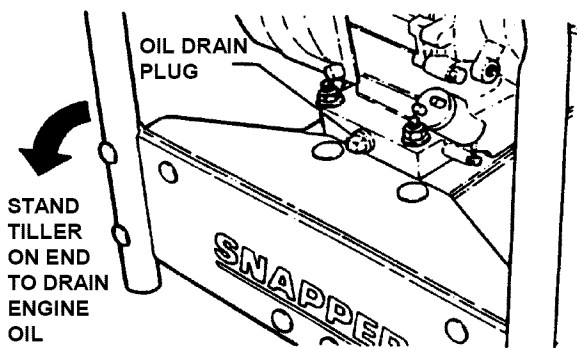

FIGURE 9
3.2.1 ENGINE SERVICE: Refer to the engine owner's manual for details. Engine oil is drained by removing front filler plug and standing Tiller on end. See Figure 9.